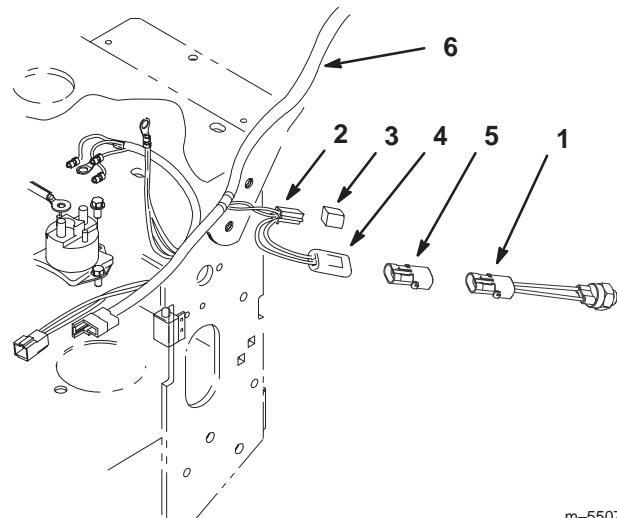

Figure 10
5. Remove the cap off of the transmission switch harness connector, when installing the harness (Figures 10 and 24).
Note: Do not remove the shrink wrap around the neutral switch connector for **pistol grip hydro drive machines only** (Fig. 10).
7. Remove the shrink wrap off the neutral switch connector (Figures 10 and 24).
Note: Keep the cap on the transmission switch connector for **pistol grip gear drive machines only** (Fig. 10).